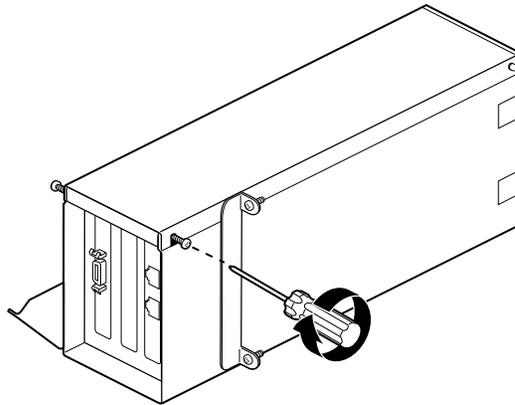

Figure 4-35 Replacing the Screws of the PCI Module Door
8. Tighten the door screws, as shown in Figure 4-35.